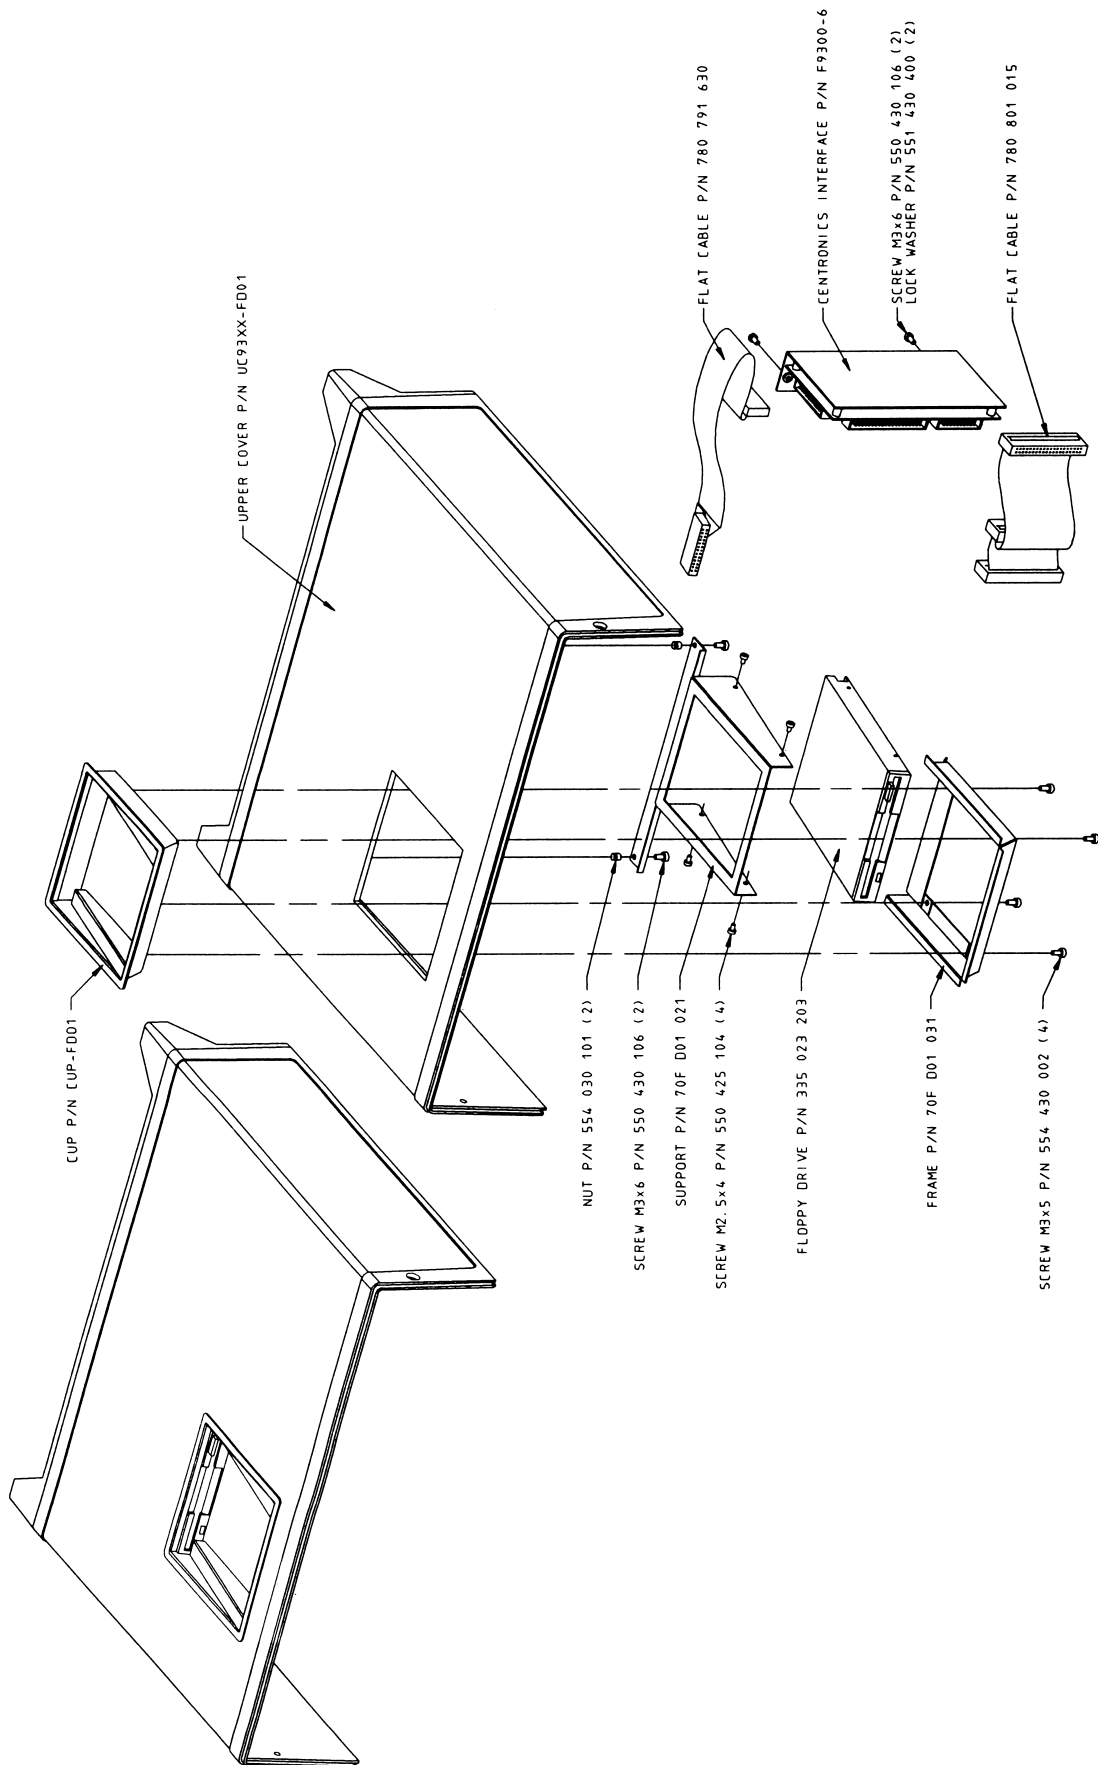

FIGURE 7.5: 9320-FD01 ASSEMBLY: FLOPPY OPTION
- Disconnect the flat ribbon cable from the F9300-6 interface (see figure 7.5).
- Disconnect the flat cable from the F9300-4 GPIB/RS232 board (see figure 7.5 or 7.6).